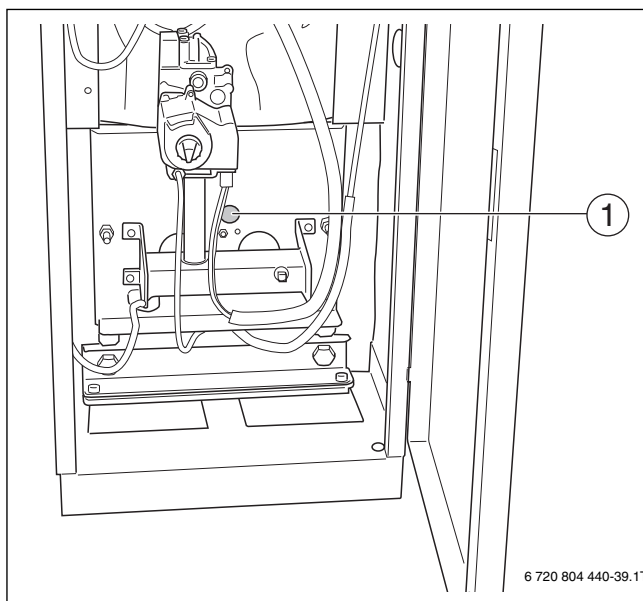

Fig. 31 GC 144 II
- Observe the ignition burner through the sight glass window (→ figure 31).